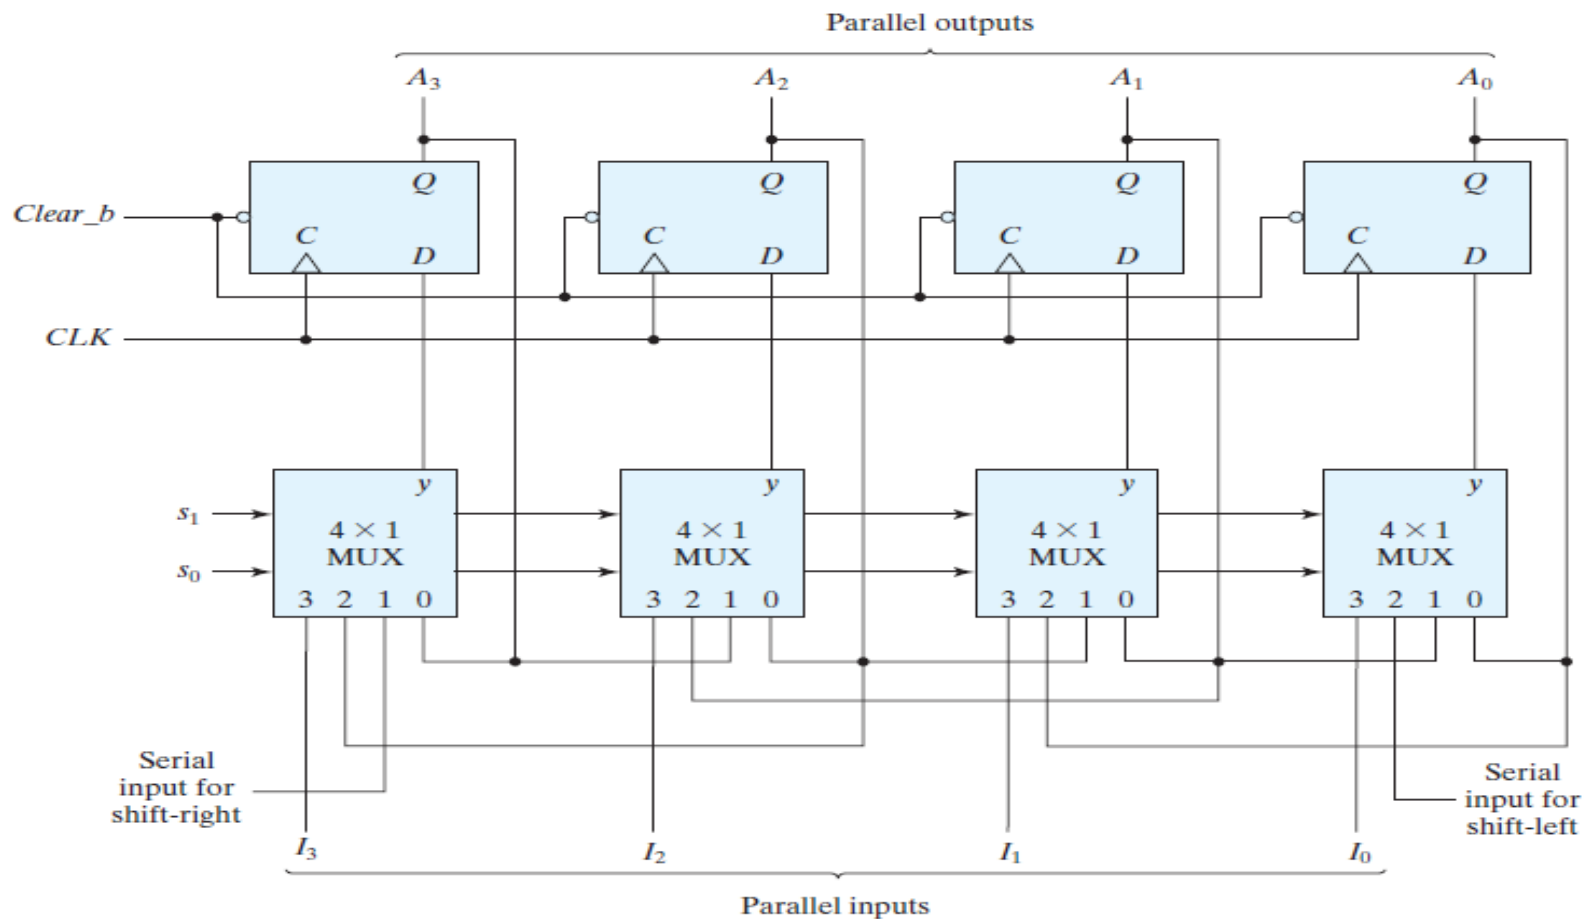

FIGURE 6.7
- The block diagram is shown in Fig. 6.7 .
Function Table for the Register of Fig. 6.7